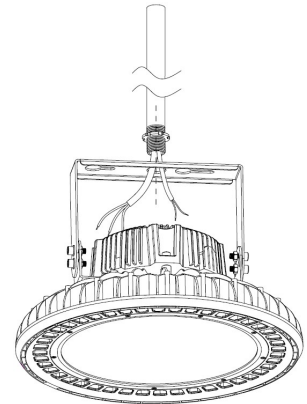

Figure 9
2. Make the corresponding holes on the bracket through the M20 (Figure 9).